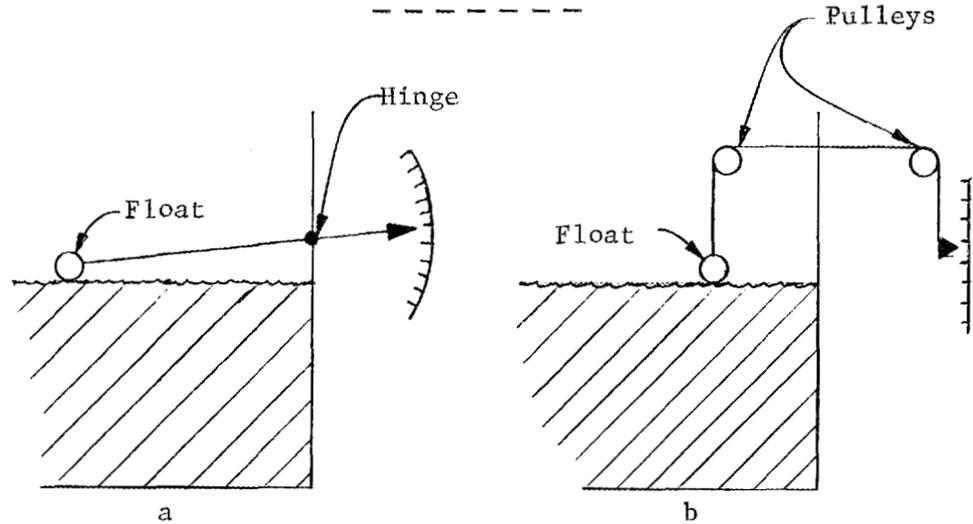

Fig. V-66. Float-Type Local Indicators
77. Another common type of indicator makes use of a local float arrangement, such as that shown below (Figure V-66), for local readout.
78. Figure V-66 has been simplified for our purpose, but it does represent two methods of using a float to measure the _____ in a tank.
79. The drawings in Figure V-66 show the use of float mechanisms for (remote, local, electrical) display of liquid-level information.